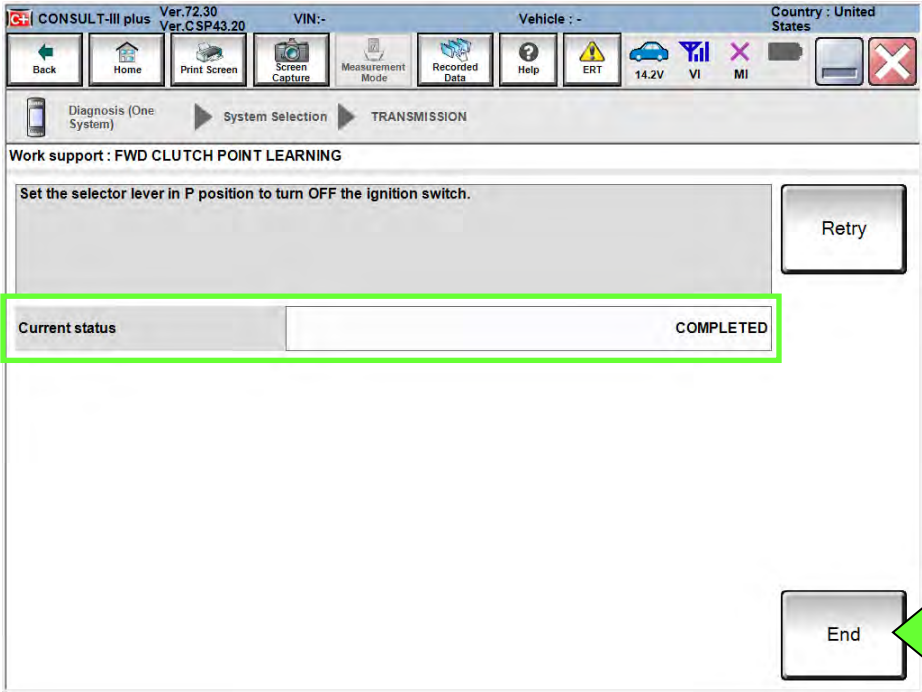

Figure 26J
18. When the screen in Figure 26J is displayed, select **End**.